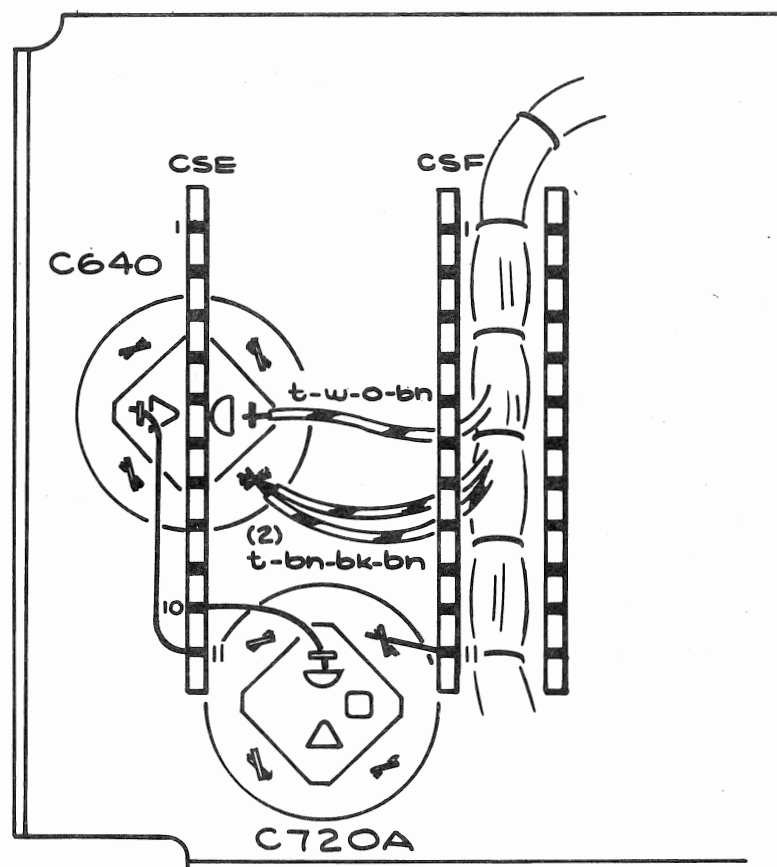

Fig. 2
- ( ) 5. Rewire C640 and C720A as indicated in Fig 2, using #16 bare wire from the kit.